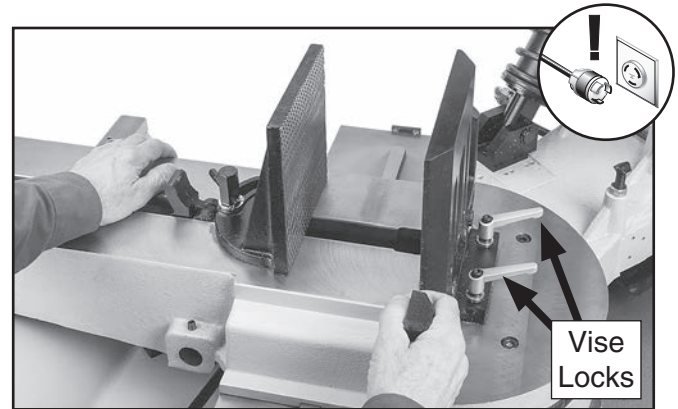

Figure 43. Location of vise base locks.
4. Loosen two vise locks at base of vise (see **Figure 43**).